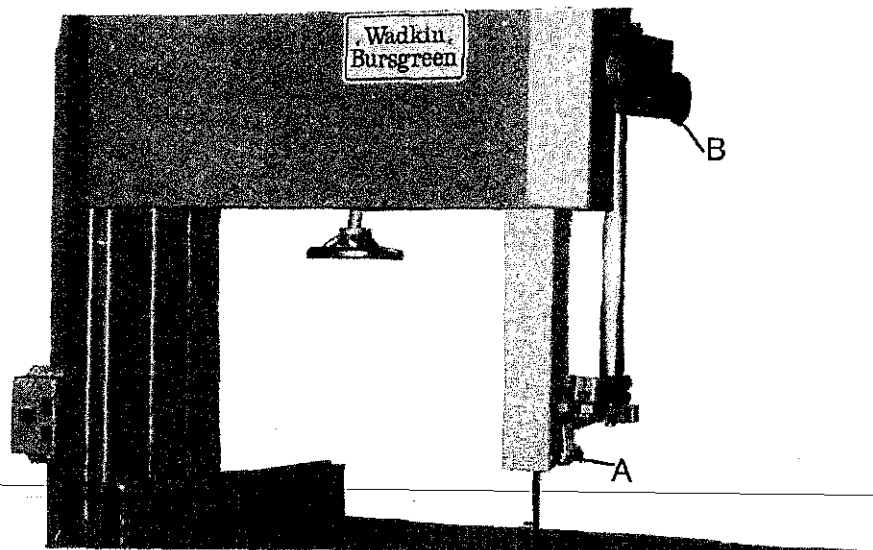

FIG 15
2. Hold guide assembly "A", FIG. 15, then loosen handwheel "B".